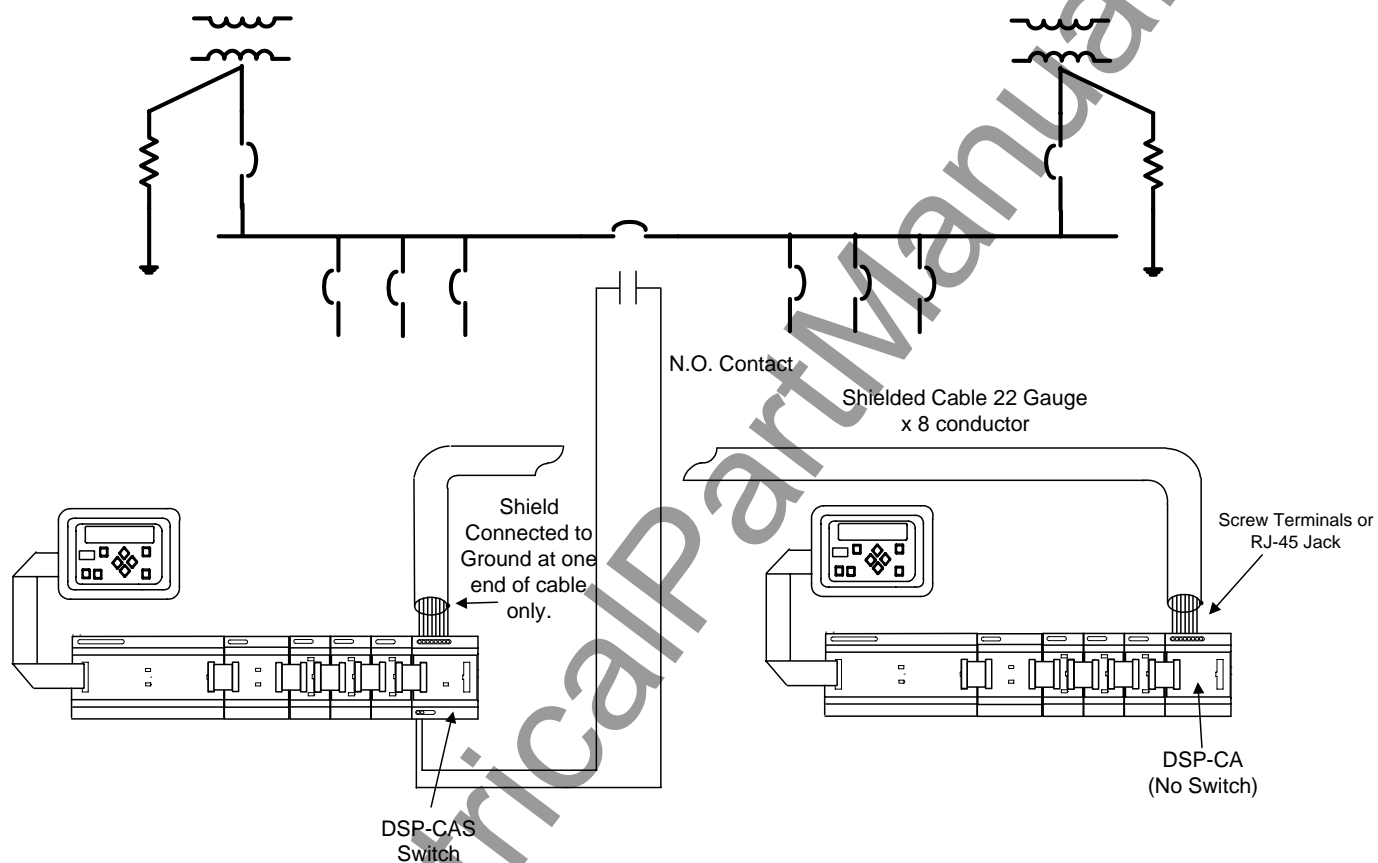

Figure 5.1 Typical Main-Tie-Main Substation with two DSP systems
5.1. Figures 5.1 and 5.2 illustrate the use of the DSP systems in double and triple ended substations. Note the diagrams are simplified and do not show the DDR2 resistors or sensors and Trip circuit wiring, for clarity.